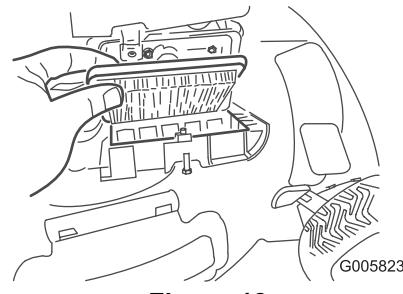

Figure 18
- Replace the air filter (Figure 18).